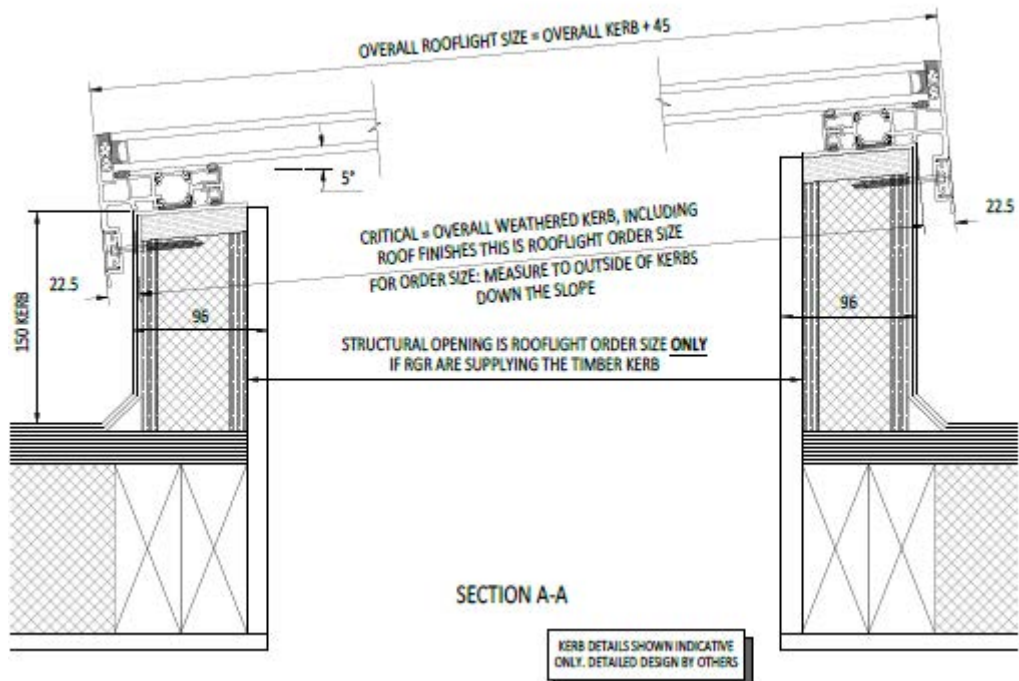

Fig 2 – Slope Section Through Kerb
- ▶ 2 Check that the kerb has been constructed with a min 5° fall to help shed water off the glass, and that the kerb top is level and in one continuous plane. (this is most important as this could adversely affect drainage) 5° is a minimum to shed water but this is by no means the correct fall for every rooflight. A decision must be made on site by the installer regarding the correct amount of fall to reduce any water pooling effects. See *Figure 2*.